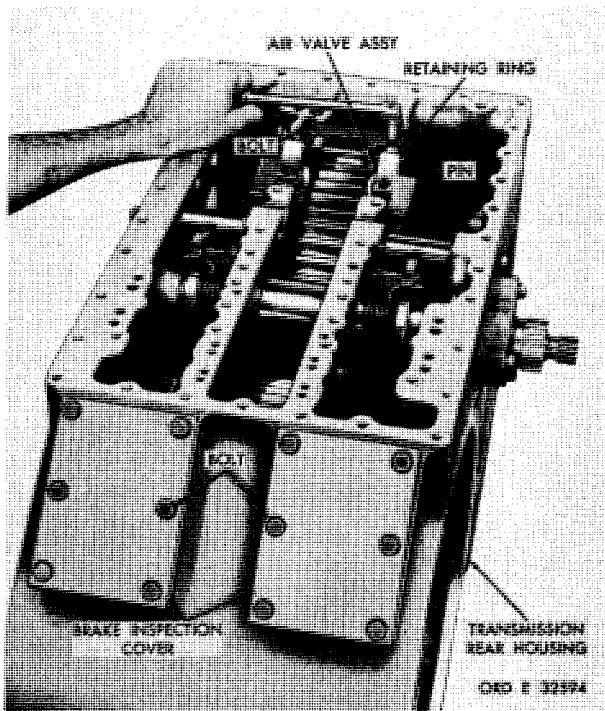

Figure 175. Removing transmission brake air valve assembly
a. Using a 9/16-inch wrench, remove two self-locking bolts that retain brake air valve assembly (fig. 175). Remove the valve assembly.
b. Remove the retaining ring on the air valve assembly (fig. 175).
c. Remove the pin, and disassemble the air valve assembly (fig. 175).
d. Using a 9/16-inch wrench, remove 12 cap screws and lock washers retaining brake inspection covers. Remove the two covers with gaskets (fig. 175).